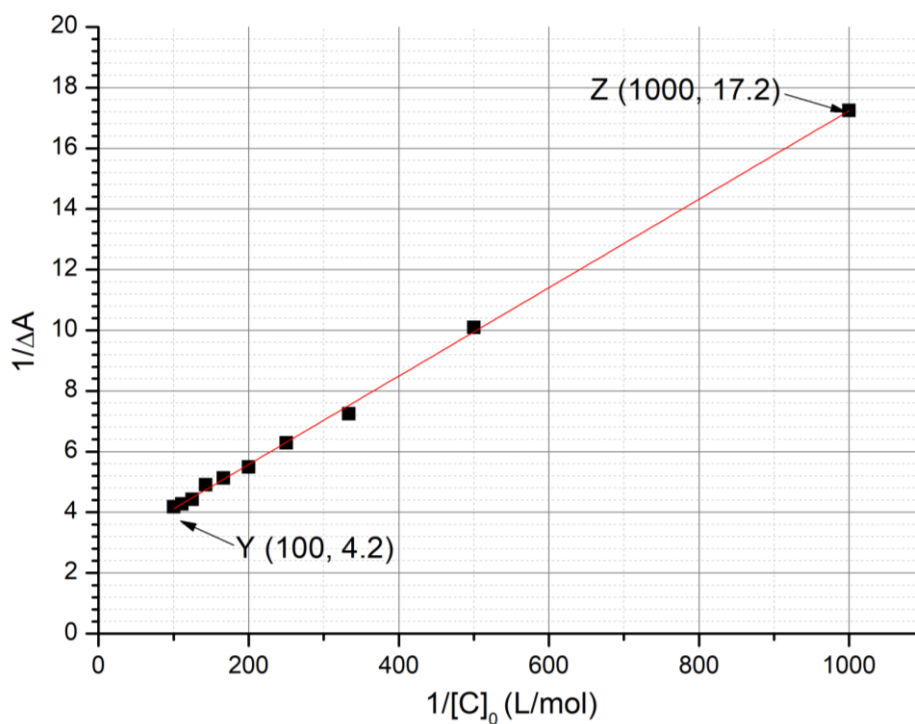

Fig. 3 – Evolution of $1/\Delta A$ as a function of $1/[C]_0$.
6. **Determine** K_t using the following experimental curve (Fig. 3).